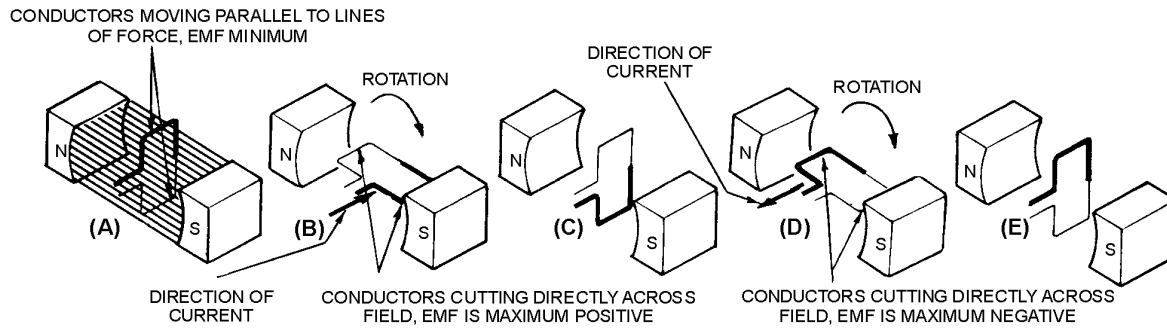

Figure 1-7.—Simple alternating-current generator.
Figures 1-7 and 1-8 show a suspended loop of wire (conductor) being rotated (moved) in a clockwise direction through the magnetic field between the poles of a permanent magnet. For ease of explanation, the loop has been divided into a dark half and light half. Notice in (A) of the figure that the dark half is moving along (parallel to) the lines of force. Consequently, it is cutting NO lines of force. The same is true of the light half, which is moving in the opposite direction. Since the conductors are cutting no lines of force, no emf is induced. As the loop rotates toward the position shown in (B), it cuts more and more lines of force per second (inducing an ever-increasing voltage) because it is cutting more directly across the field (lines of force). At (B), the conductor is shown completing one-quarter of a complete revolution, or 90°, of a complete circle. Because the conductor is now cutting directly across the field, the voltage